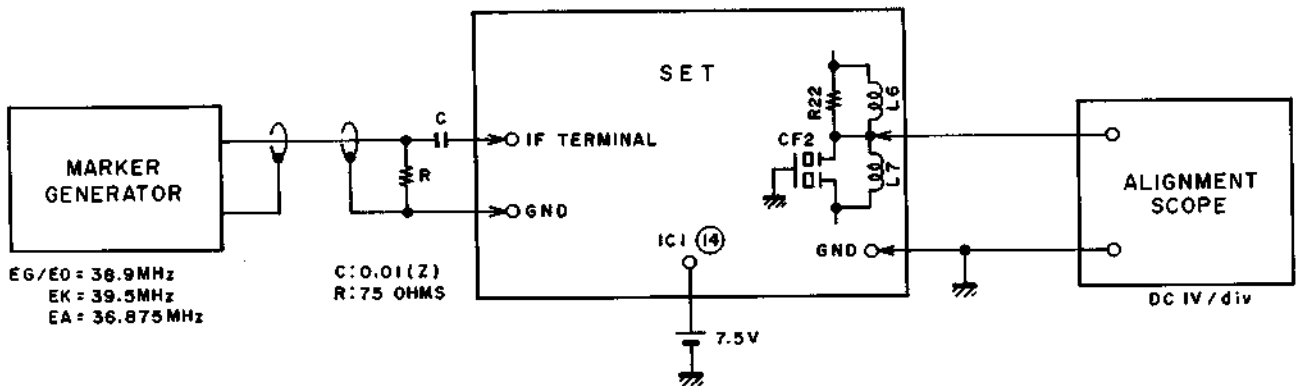

Fig. 8-8
- Connect the alignment scope as shown in Fig. 8-8.
- Apply DC 7.5V to Pin ⑭ of IC1.